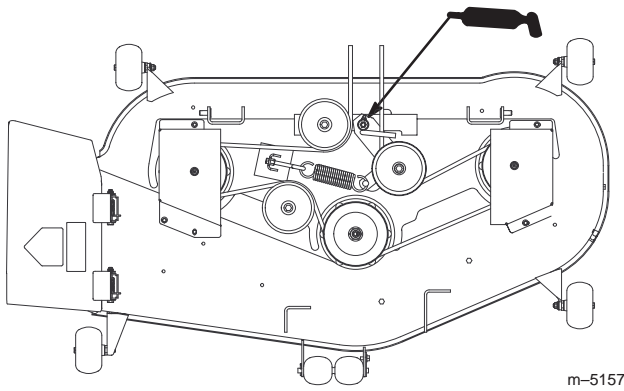

Figure 30
3. Grease the idler pulley pivot (Fig. 30).